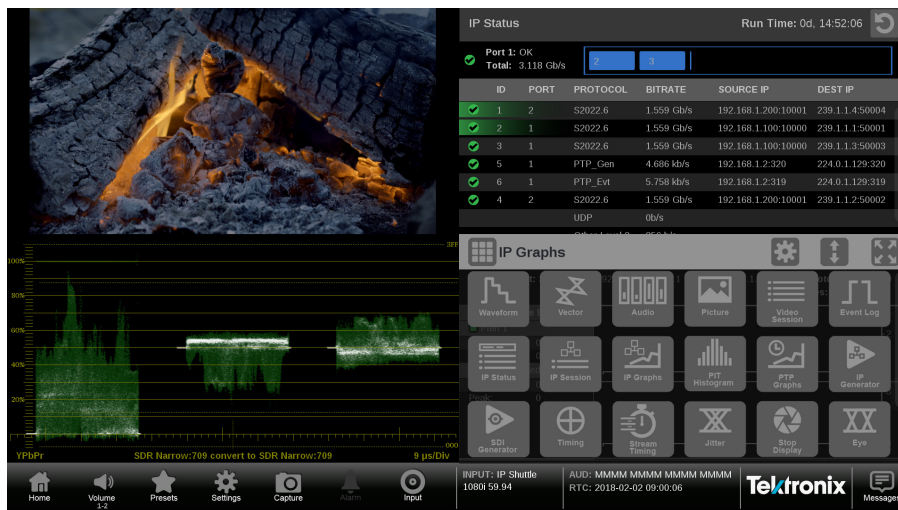

Figure 6: PRISM display in four-tile mode
2. If necessary, touch the  icon to open the list of available applications. (See Figure 6 on page 15.)